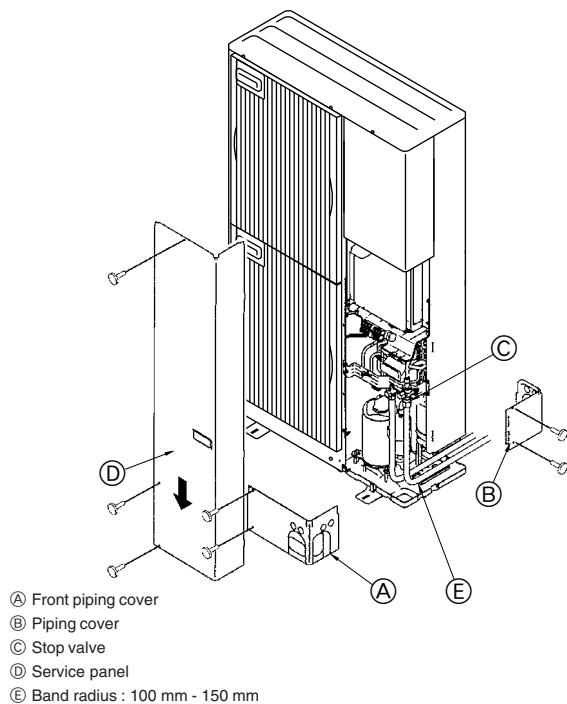

Fig. 5-6
5.6. Refrigerant piping (Fig. 5-6)